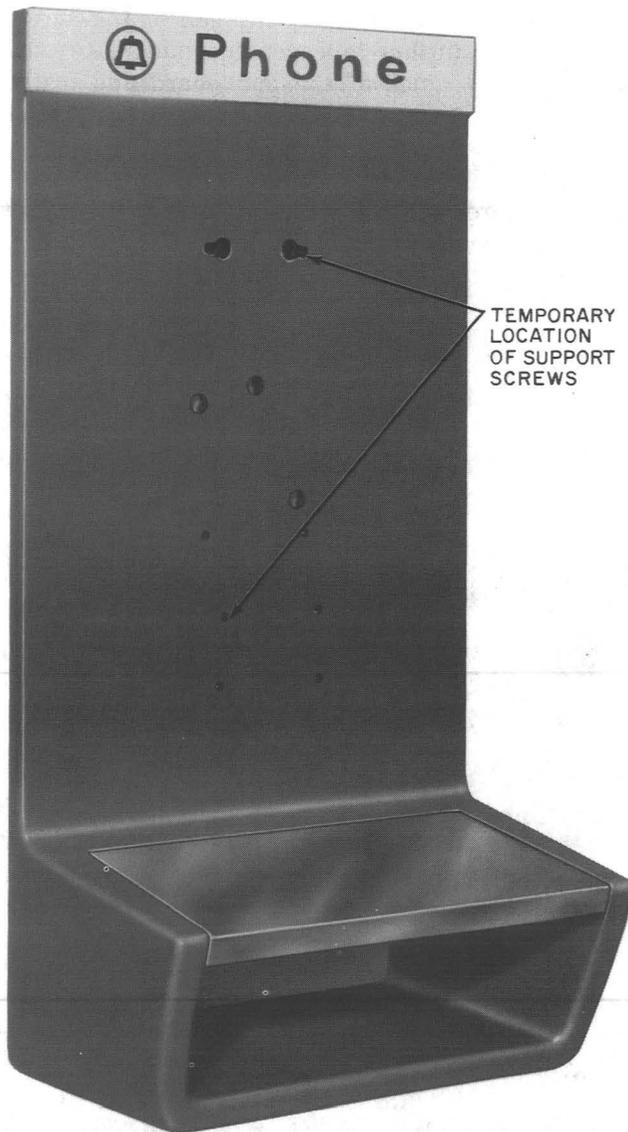

Fig. 4—KS-19945, List 14 Coin Telephone Shelf
- (1) Shelf with a solid backplate (Fig. 4) for fitting over a 174A or 178A backboard.
**3.03** Utilizing the top-right keyhole slot in backplate of shelf (Fig. 4) hang the shelf on this screw. Align the mounting holes of the backplate with the mounting holes of the backboard and install another 1/4-20 by 5/8 RHM screw in lower portion of backboard.
**Security studs must be used. They will go through shelf and backboard (Fig. 4).**